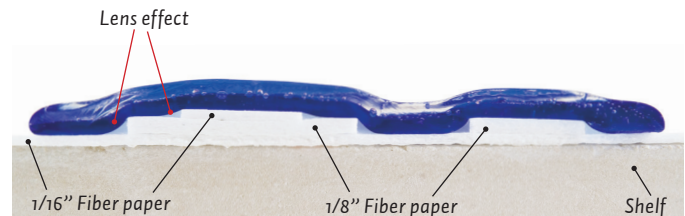

Figure 4: Cross-sectional view of kilnformed glass, fired at 1420°F (~770°C).
- At 1420°F (~770°C), the glass will not contact or conform to the sharp edges in the paper pattern, but will gently slope over those edges, creating what we call a "lens effect." (Figure 4)